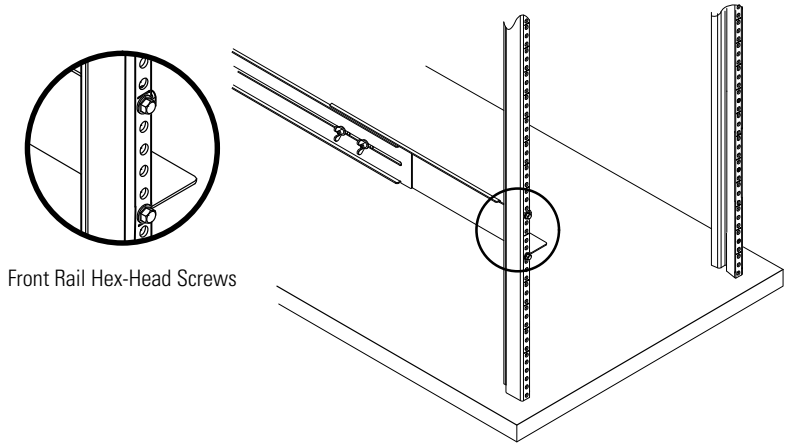

Figure 37. Securing the Front Rail
3. Secure the rail to the front of the rack with two hex-head screws (see Figure 37).